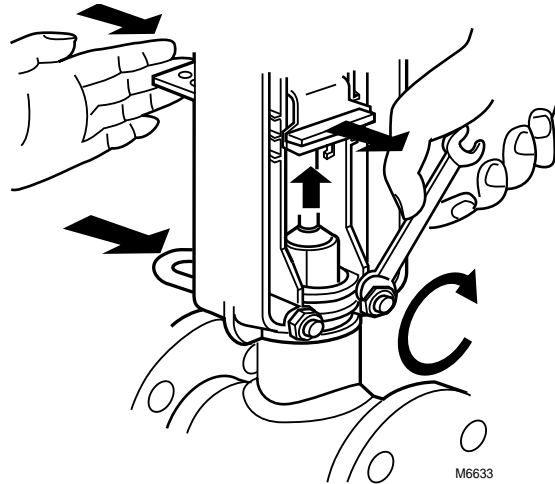

Fig. 3. Securing ML7425 to valve.
3. Push aside the stem button retaining clip and hold. See Fig. 3.